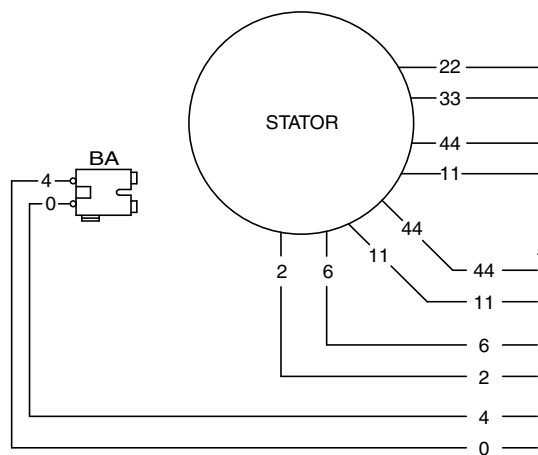

Figure 52. Stator Output Leads
The stator houses a dual power winding and an excitation winding. Coming from the stator there are typically Eight (8) stator leads as shown in Figure 52.